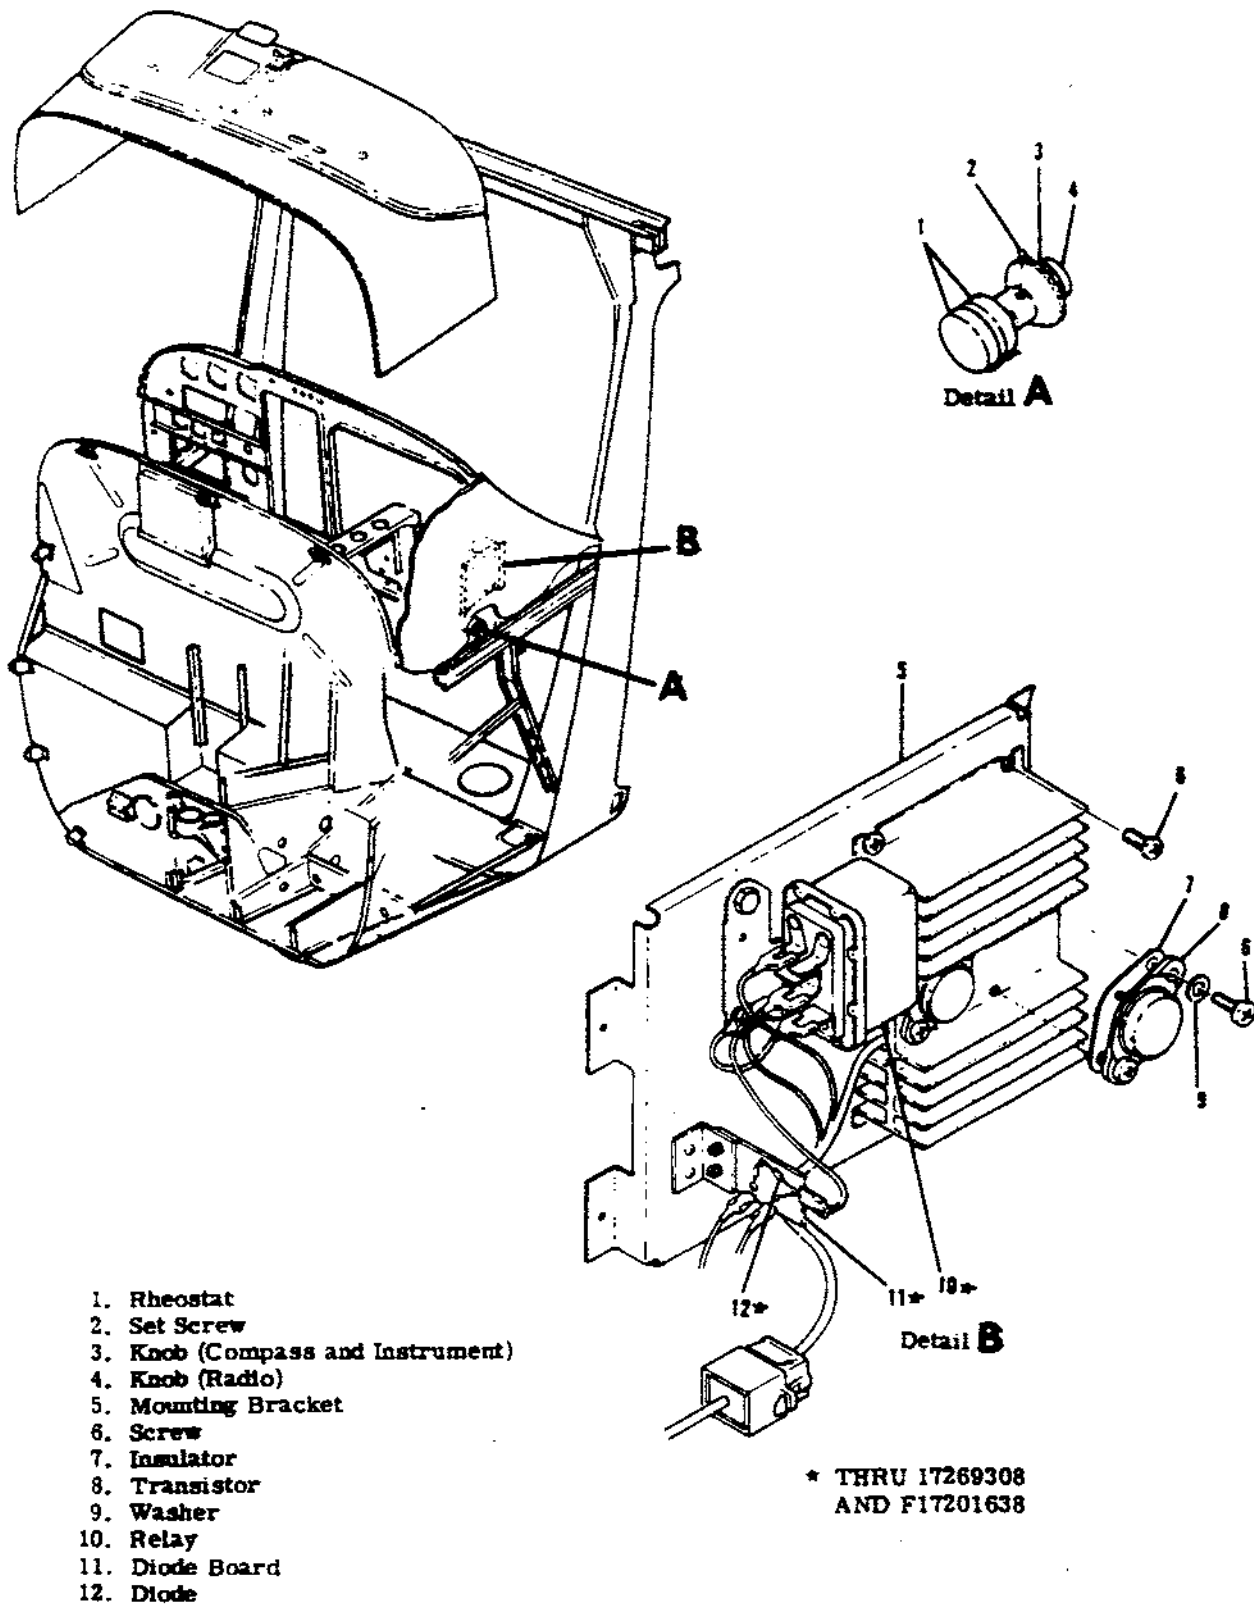

Figure 16-10. Transistorized Dimming
- 16-77. **REMOVAL AND INSTALLATION.** For removal and installation of transistorized dimming assembly, see figure 16-10.